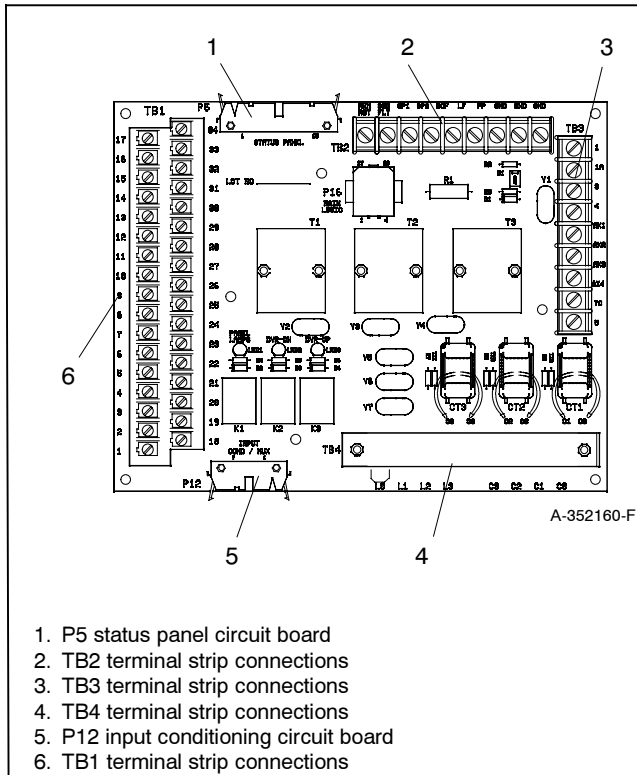

Figure 4-7 Interconnection Circuit Board A-352160
b. Interconnection circuit board A-352160. See Figure 4-7.